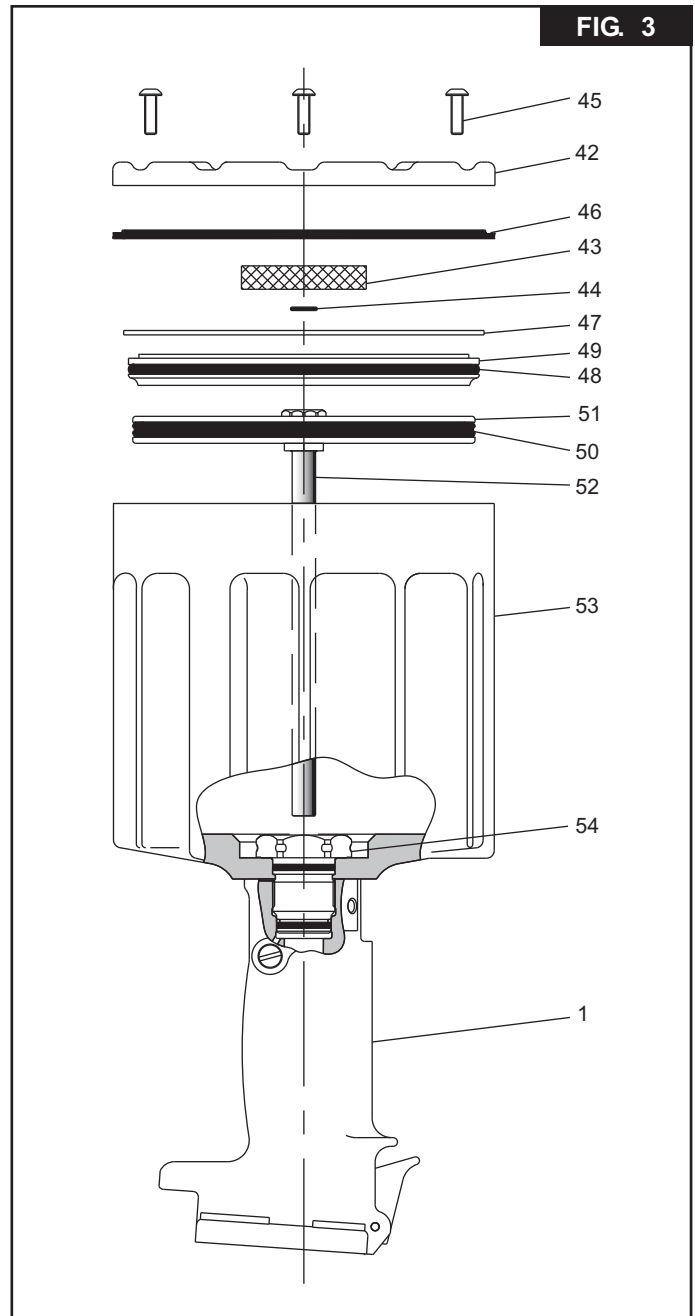

FIG. 3
18. Remove Bleed Screw (64) from handle (Fig. 3).
19. Hold tool inverted in vice. Unscrew three Button Head Screws (45) with 1/8 hex key. (Fig 3).
20. Remove bottom Plate (42), Bottom Exhaust Gasket (46), Muffler (43) and O-ring (44) (Fig 3).
21. Remove Retaining Ring (47) from Cylinder (53) (Fig 3).
22. Screw button head screws (45) into Cylinder Head (49). Carefully pry under screws to remove cylinder head.
25. Grip lock nut (41) under Air Piston with pliers and pull piston and rod assembly from handle and cylinder assembly (Fig 3).
5. Hold handle in vise with bottom facing up. Push Cylinder Head (49) with O-ring (48) in place squarely into cylinder. Install Retaining Ring (47). (Fig. 3 & 9)
6. Position O-ring (44) and Muffler (43) on center of Cylinder Head (49), place Gasket (46) on cylinder assembly (53) **NOTE: Lip must face Bottom Plate (42)**. Place Bottom Plate (42) on top of Gasket and secure with 3 Button Head Screws (45) using 1/8 hex key. (Fig. 3)